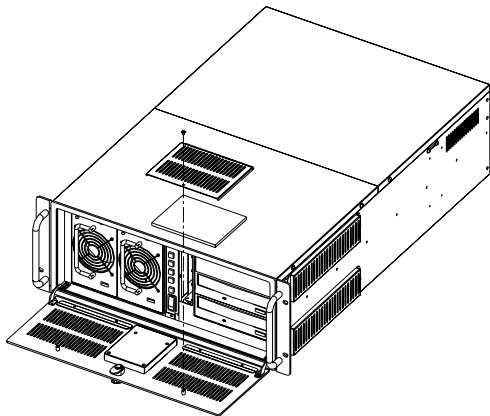

Figure 3-2: Replacing the filter behind the front door
The filter is to block the dust or the particles from the work environment and extend the system longevity. It's better to replace the new filter periodically. There is one filter behind the front door and four filters on left and right sides of the chassis. To replace the filter, please refer to *Figure 3-2* and proceed as follows.
2. Loosen the screw located on the filter cover and then gently pull the filter cover forward. Please see *Figure 3-2*.